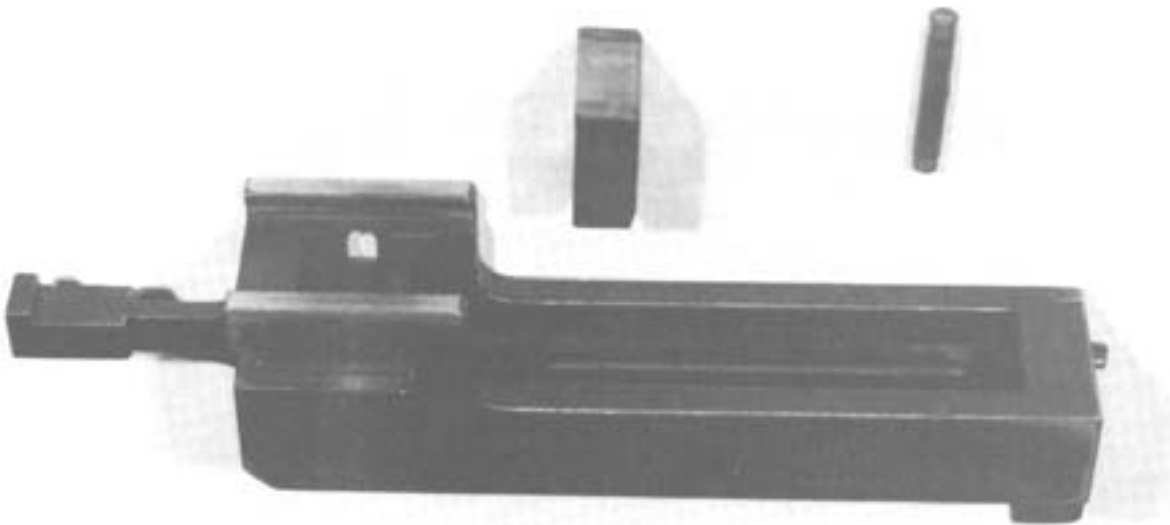

Figure 4-35. Barrel Extension Group with New Type Breech Lock.
(1) Detailed disassembly. See figure 4-35.